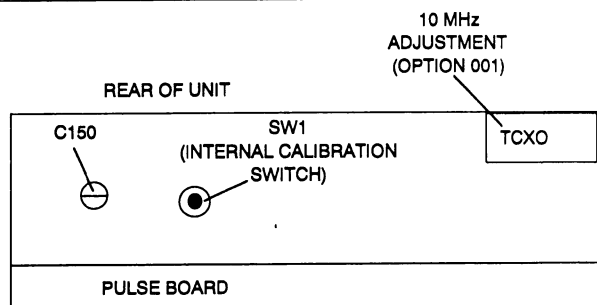

Figure 4-3. Frequency Reference/TCXO Locator
3. Measure the frequency at the UNBALANCED output connector. Verify the counter reads 500 kHz \pm 1Hz. If incorrect, slide the cover back, and adjust C150 (see figure 4-3) until the counter reads 500 kHz \pm 1Hz. Then slide the cover back on.
6. Measure the frequency at the REF OUT connector. Verify the counter reads 10 MHz \pm 2Hz. If incorrect, remove the sticker from the TCXO and adjust the trimmer (see figure 4-3) until the counter reads 10 MHz \pm 2Hz. When finished, replace the sticker on the TCXO. Slide the cover on.